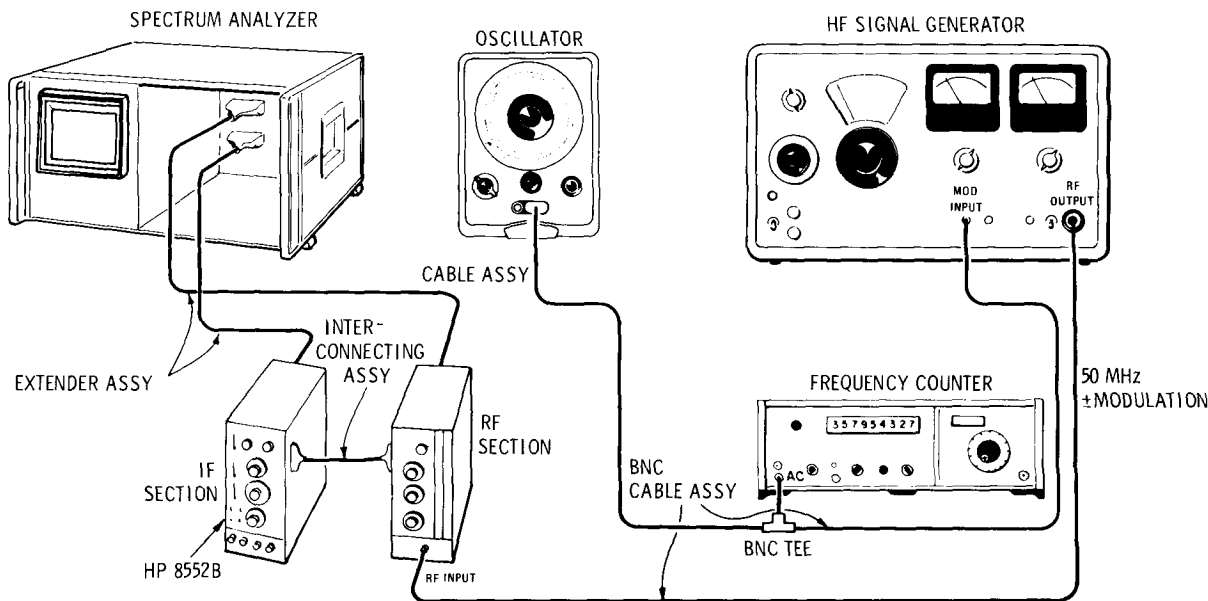

Figure 5-4. Final Scan Time Adjustment Test Setup
1. Connect the test setup shown in Figure 5-4 and make the following control settings: